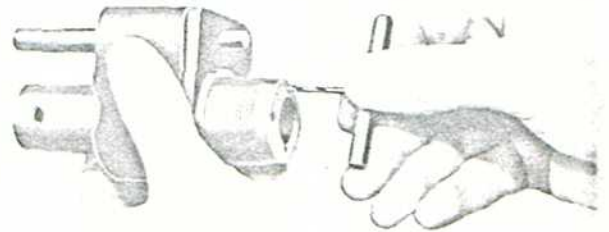

Fig. 10 - Reaming Body Fuel Passages
- c. Using magnetized reamer #8194040, Fig. 10, clean out oil passages in the body. Pin vise #8069988 may be used to hold the reamer. There are two other passages besides the two fuel passages at the bottom of the body namely: the vent passage